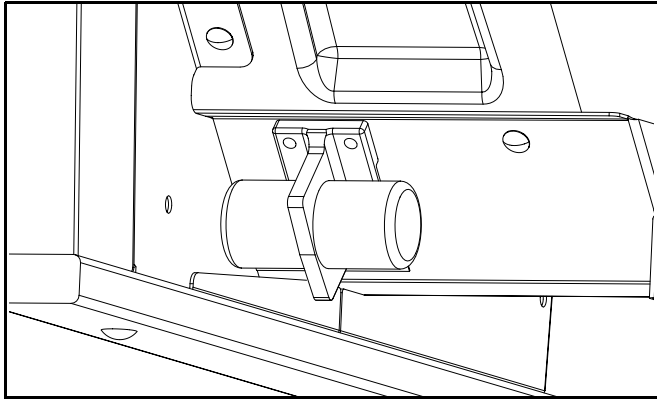

Figure 2
3. Use the vibrator as a template. Align the first hole and mark the remaining holes. The top holes will go through the hopper and frame. The lower two holes will only go through the frame. (See Figure 2)